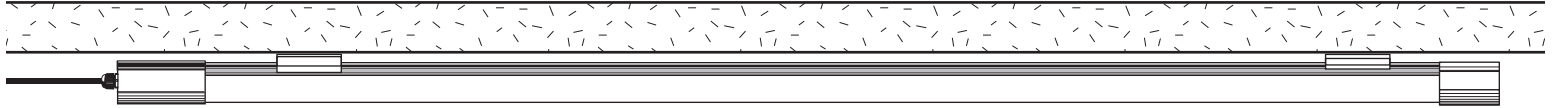

Fig. 14
3. Your installation is now complete (Fig. 14). Restore the power.